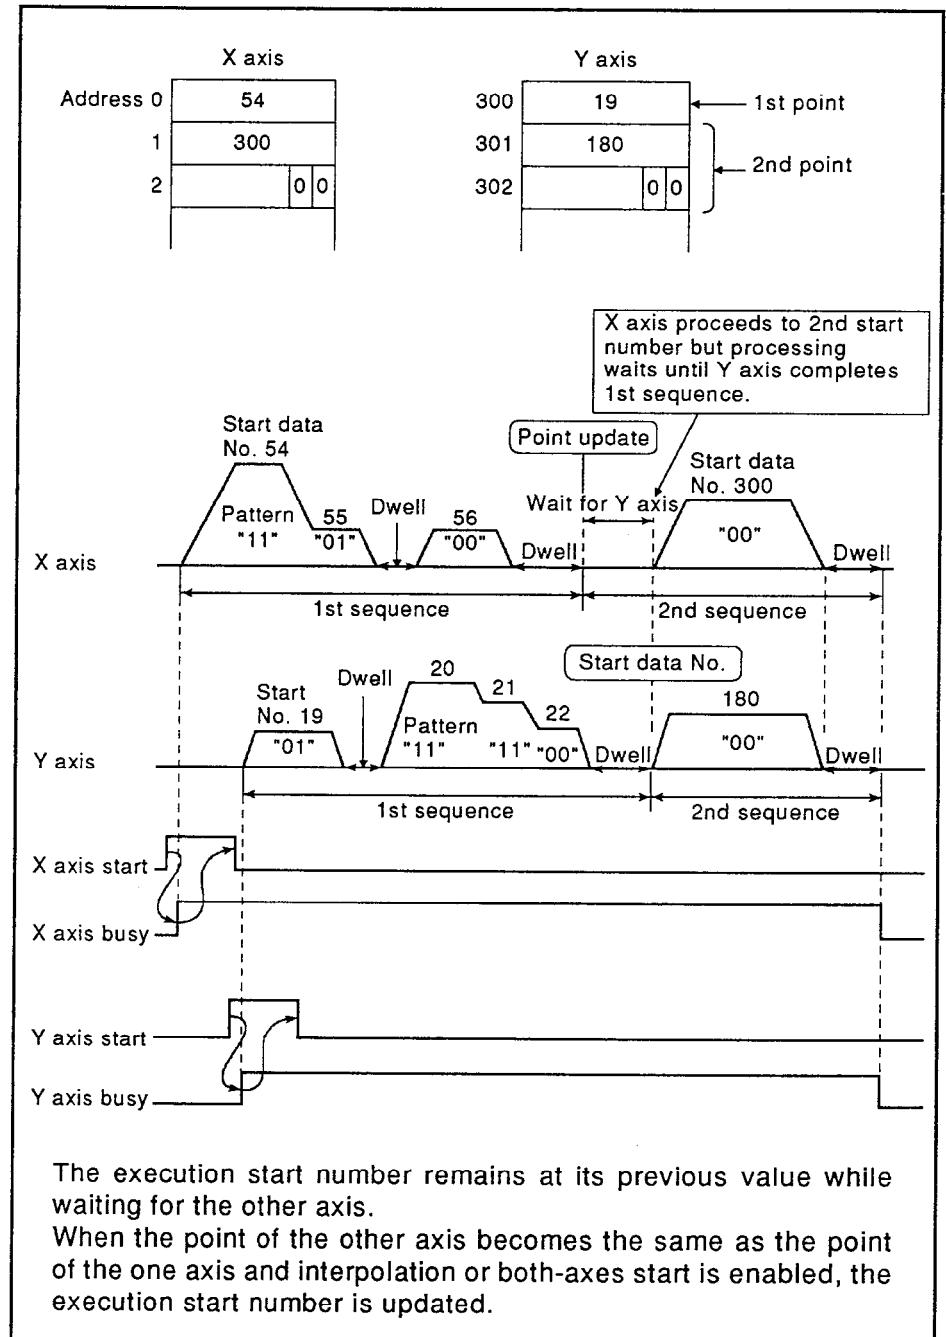

Fig. 3.40 Start Data Example 5
5) In a situation where interpolation (00) or independent (11) start has been defined at one axis and the other axis is still positioning, processing will vary as described below.
- An axis will wait for the other to finish its current process or for its busy signal to turn off. This is illustrated in Fig. 3.40 below.